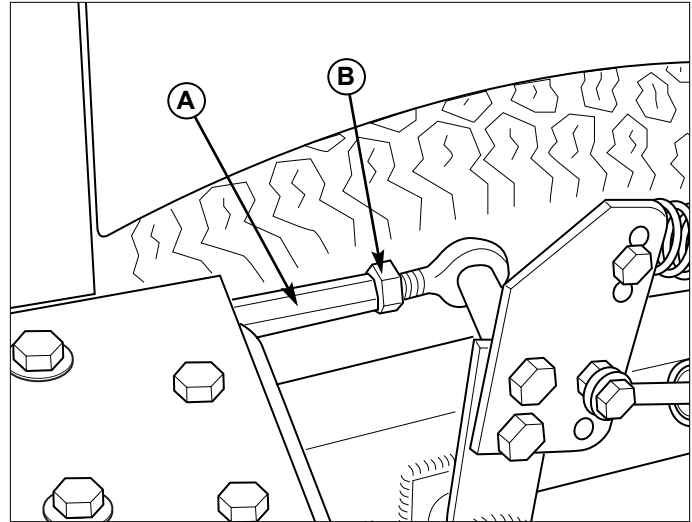

Figure 35. Neutral Adjustment
2. Loosen the jam nut (B, Figure 35) and turn the adjustment linkage (A, Figure 35) to adjust. If the machine creeps forward, turn the linkage CLOCKWISE (while standing at the rear of the machine, facing forward), if the machine creeps backward, turn the linkage COUNTER-CLOCKWISE.
3. Lock the jam nut (B) when neutral is achieved.